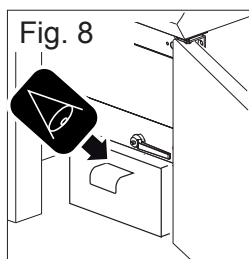

Fig. 8
1. Place a recipient (appropriate for shape and capacity) underneath the drainage gate valve (Fig. 8).